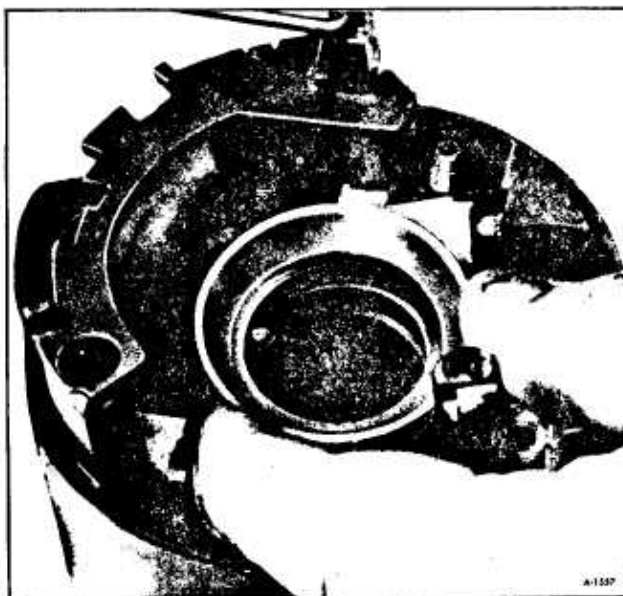

Figure 75—Removing Thrust Cup
16. Remove thrust cup. (figure 75).
6. Install the thrust cup on the bottom hub of the housing. (figure 75).